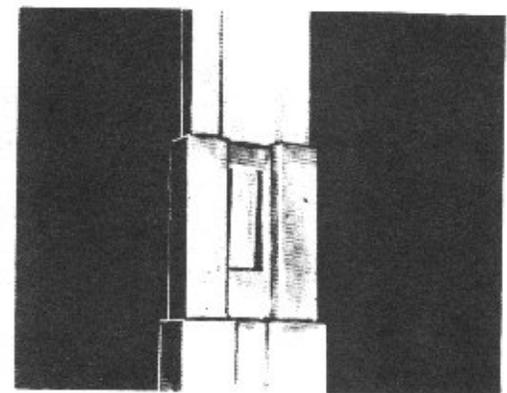

figure 9
- g. Raise the middle post extrusion so that the tang is engaged (fig. 9).